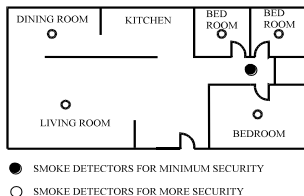

Figure 1: Installation locations for smoke & heat detectors in single-family apartments or homes with only one sleeping area
- Install a smoke & heat detector in the hallway outside of every separate sleeping area (see *Figure 1*). Two detectors are necessary in a building with two areas with bedrooms.